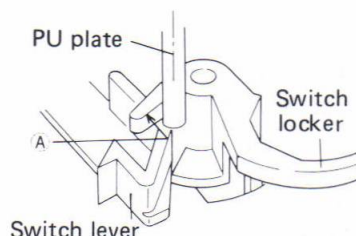

Fig. 4-3 Adjustment of switch locker
In order to turn the power OFF, the PU plate shaft touches surface (A) of the switch locker pushing it over so it locks with the switch lever turning the microswitch OFF (Fig. 4-3). If the amount of push on the switch locker is insufficient, it can not lock with the switch lever. With the tonearm locked in the arm rest, as shown in figure 4-4, attach the PU plate precisely mid-way between the first and second points from the arm base scale mark counting away from you.